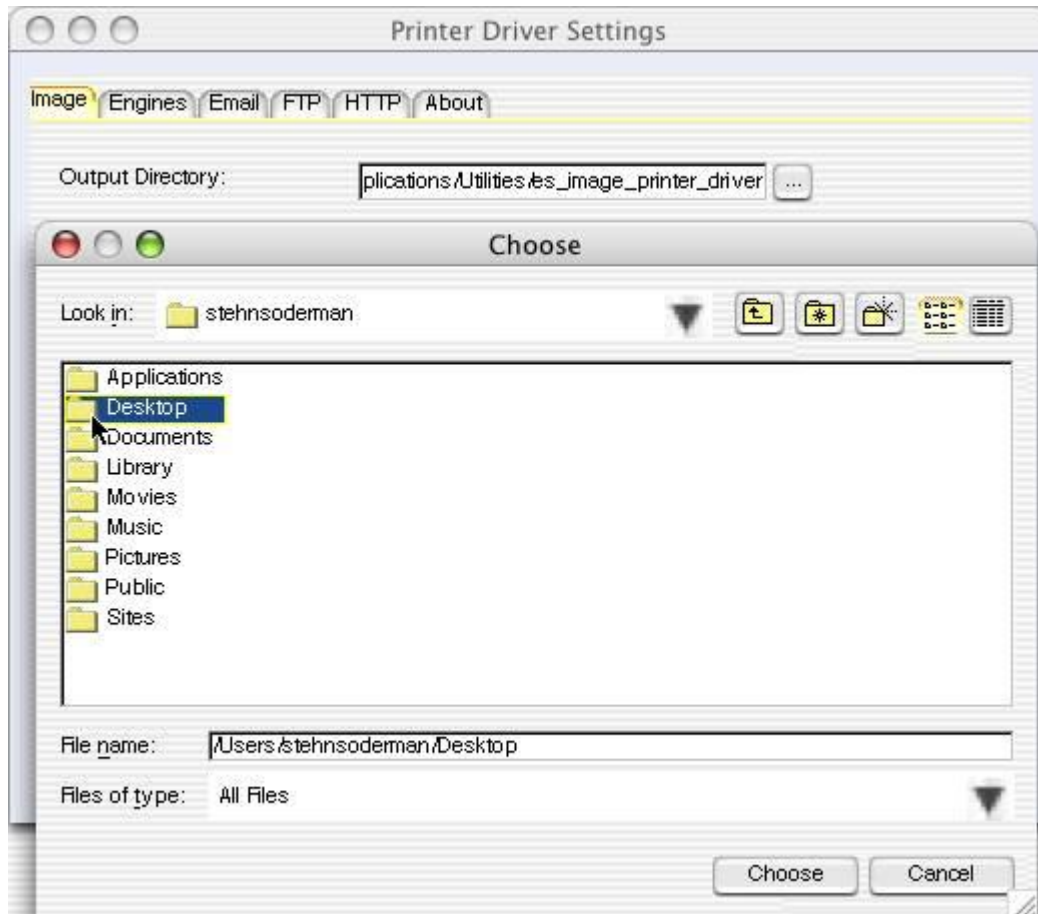

FIGURE 9d
Step 3) Now click on the 'Desktop' directory (Figure 9d).